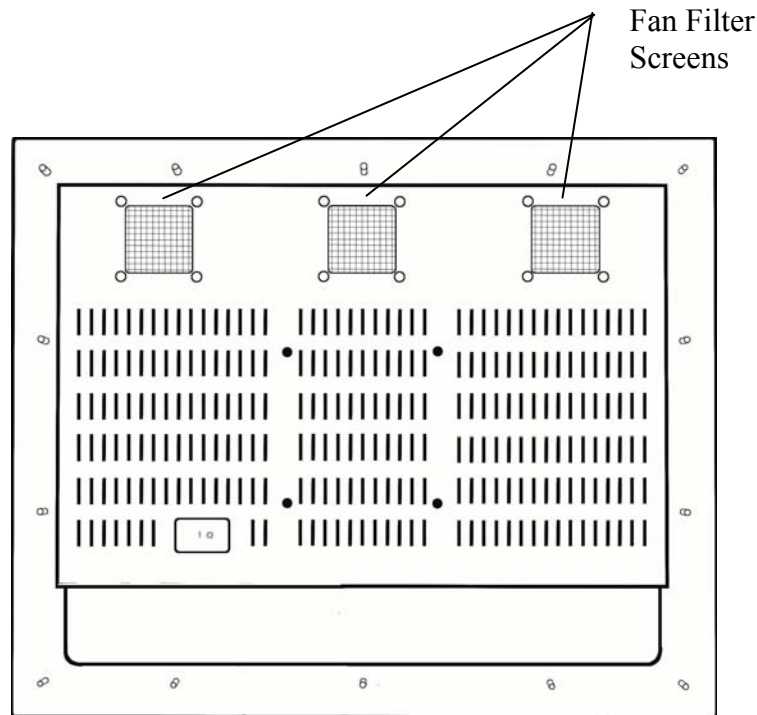

Figure 28: Cleaning Fan Filters
4. Carefully run a vacuum hose (using a crevice attachment is ideal) over the protective fan filter screens (Figure 28) to remove dust and debris from the protective covers and underlying fan filters themselves.